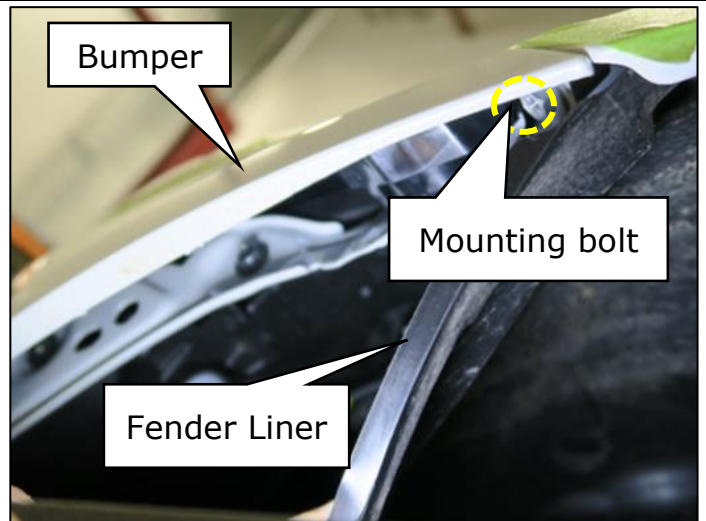

Figure 18
15. While holding the fender away from the front bumper, locate and remove the 10mm bumper mounting bolt shown in Figure 18.